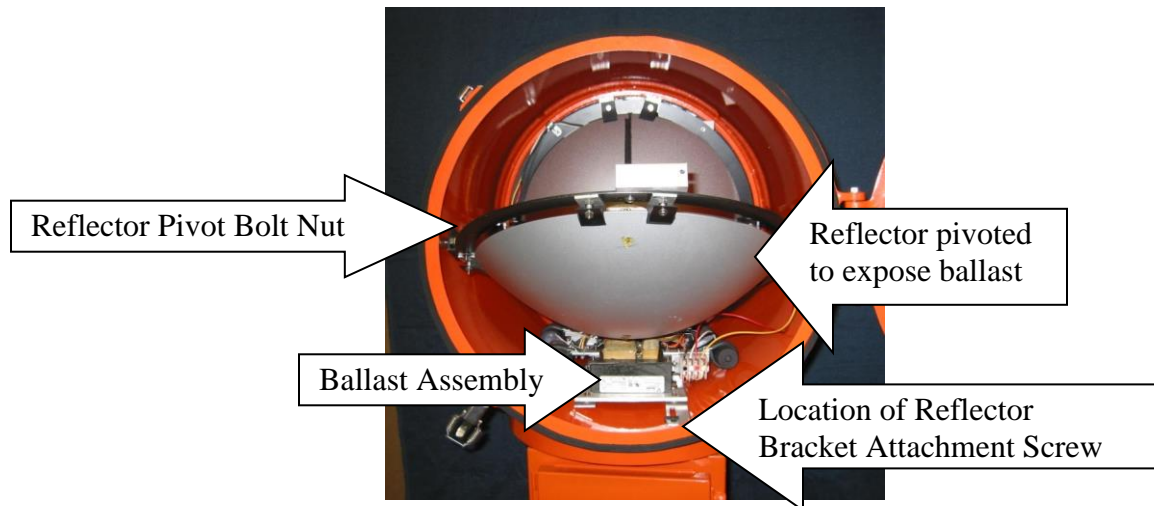

Figure 5
4. Locate the reflector bracket attachment screw, adjacent to the elevation gauge (see Figure 5).
5. Grasp the bottom edge of the reflector, and support it while removing the reflector bracket attachment screw. Gently allow the reflector to pivot and rest against the ballast assembly, as shown in Figure 5.